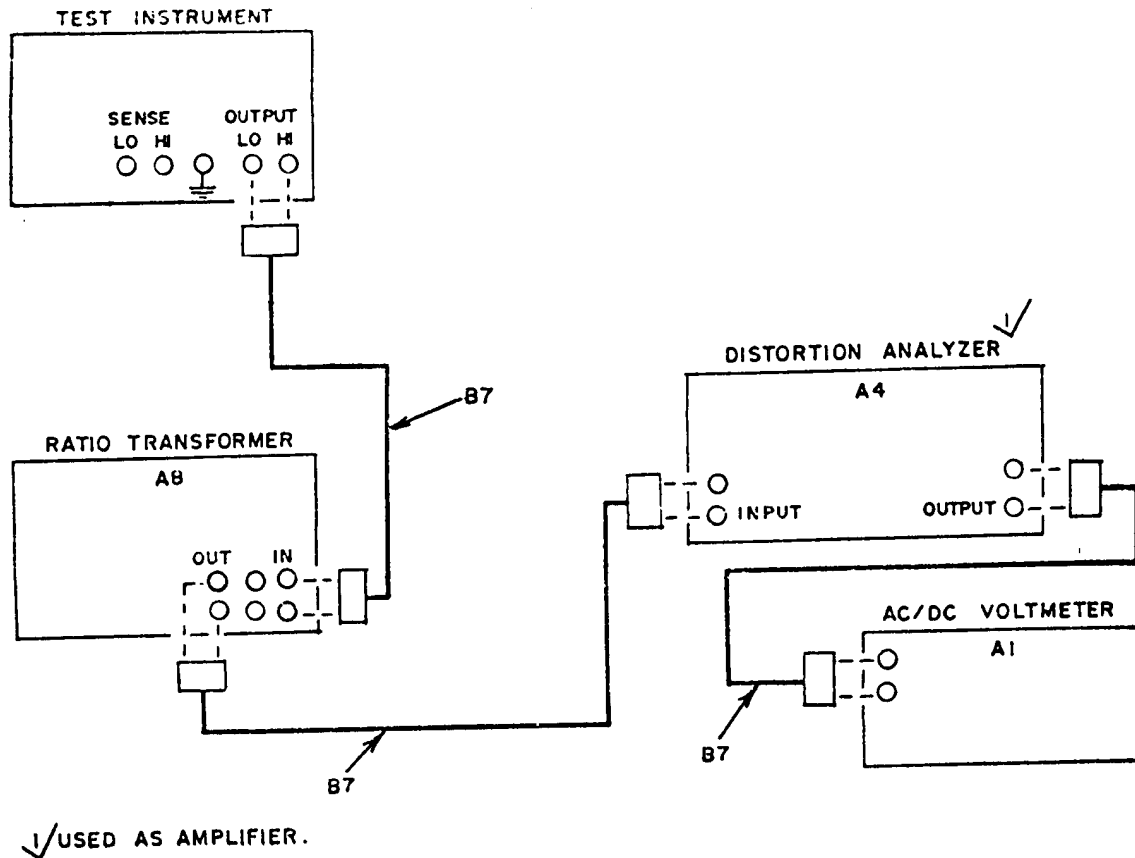

Figure 4. Low voltage - equipment setup.
(14) Set thermal transfer standard to ac balancing state. Adjust TI voltage controls to obtain null indication on thermal transfer standard meter with its null X5 pushbutton pressed.. Record TI voltage control indication.
(15) Repeat (13) and (14) above twice. Average the three voltage control indications. If average indication is 1.0 or more, subtract 1.0 from it and assign a - (minus) sign. If it is less than 1.0, subtract it from 1.0 and assign a + (plus) sign. Record value.
(16) Refer to test report for thermal transfer standard to obtain percentage of ac/dc difference for 1 V at 1 kHz. Convert percentage to voltage error, retaining sign. Record value.
(17) Add algebraically values recorded in (15) and (16) above. Reverse sign and add to 1.0. Record this value. This is the correct TI voltage control setting to obtain 1 V output.
(18) Connect equipment as shown in figure 4.